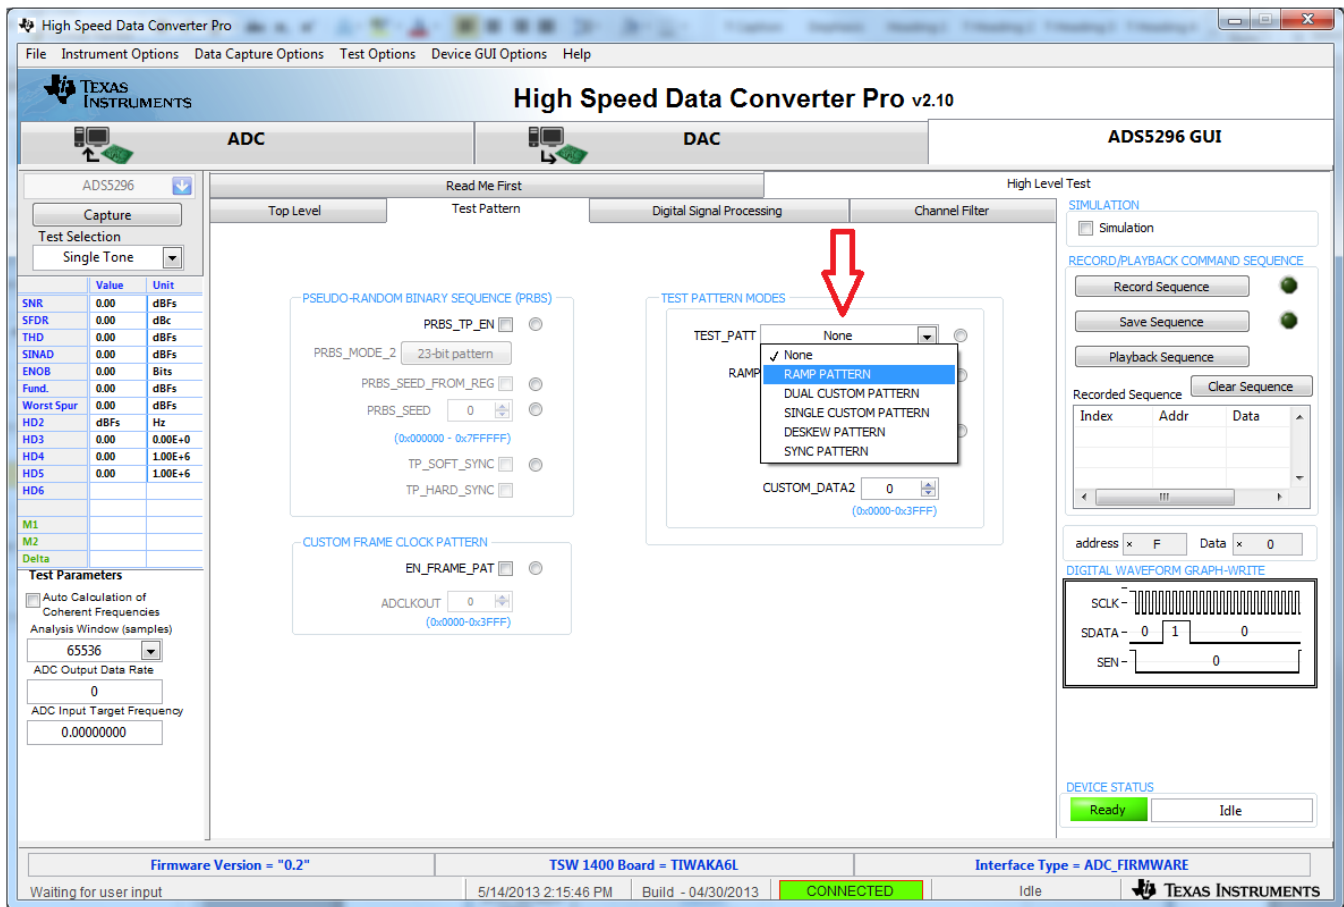

Figure 31. ADS5296 GUI Setup for RAMP Test
- Press on the sub-tab labeled *Test Pattern* and select **RAMP PATTERN** within the **TEST_PATT** menu as shown in Figure 31.